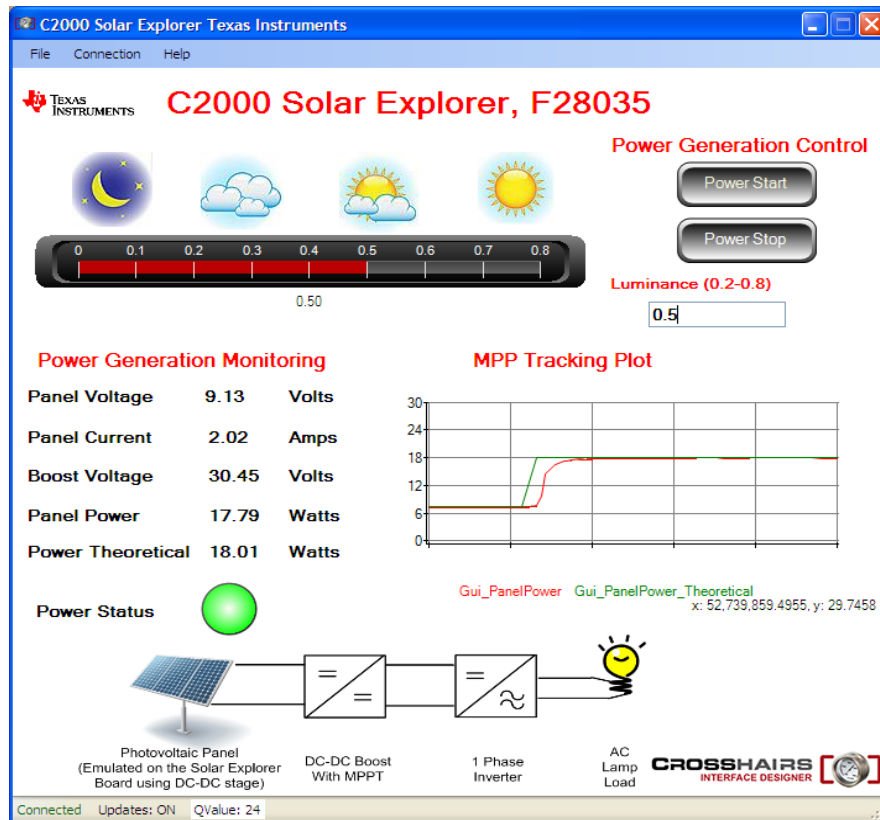

Fig 6 Solar Explorer Kit Gui
- 3) Browse to and double click on the SolarExplorer_F2803x_Gui.exe. The GUI window should pop up (Fig 6). The GUI will automatically connect to the target board and should show as connected in the GUI window. {Make sure the target board is the only emulator macro connected to the host, i.e. no other embedded target boards are connected to the computer}